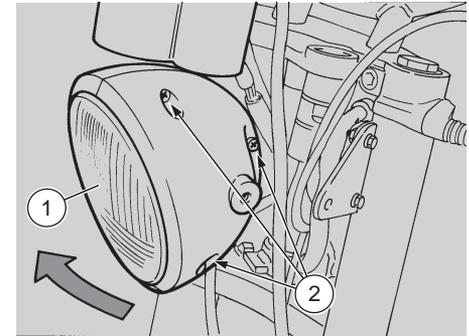

Fig. 57
- ◆ Rotate the headlight/dashboard unit rightwards (1-Fig. 57).
- ◆ Unscrew and extract the three screws (2-Fig. 57).